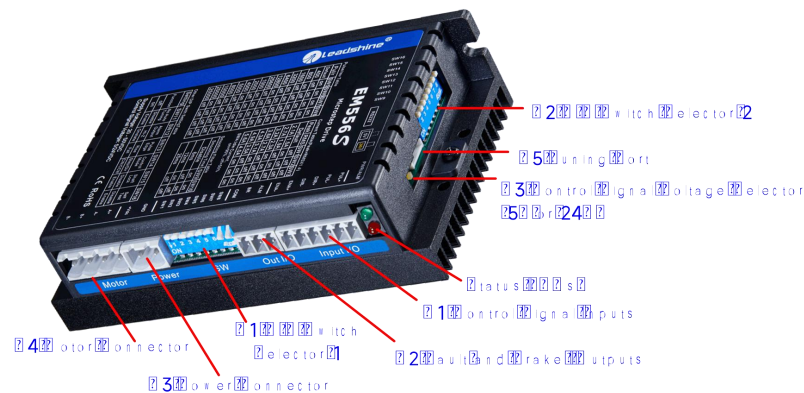

Figure 2 Connectors, DIP switches, and LED locations
PUL+ (CW+)	Pulse and Direction Connection: (1) Optically isolated, high level 4.5-5V or 24V, low voltage 0-0.5V (2) Maximum 200 KHz input frequency, 500KHz customized model is available (3) The width of PUL signal is at least 2.5μs, duty cycle is recommended 50% (4) Single pulse (step & direction) or double pulse (CW/CCW) is set by DIP Switch SW14 (5) DIR signal requires advance PUL signal minimum 5 μs in single pulse mode (6) The activated edge of PUL and DIR is set by DIP Switch SW13 (7) The factory setting of control signal voltage is 24V, must need to set S3 (figure 2) if it is 5V
The DM556 can accept differential or single-ended control signals (pulse, direction, and enable) in open-collector or PNP connection through the P1 connector (figure 2). It is recommend to add an EMI line filter between the power supply and the drive to increase noise immunity for the drive in interference environments.
The first 8-bit is located on the side (DIP switch selector 1 in Figure 2) and used to configure settings of micro step resolution, output current, and motor standstill current as shown below, the factory setting of SW1-SW8 is **OFF, OFF, OFF, OFF, OFF, OFF, ON, ON**.
The second 8-bit DIP switch is located on the top (DIP switch selector 2 in figure 2), and used to configure settings of control command filtering time, motor auto-configuration, fault output impedance, pulse active edge, control mode, lock shaft, and self-test as shown below, the factory setting of SW1-SW8 is **OFF, OFF, OFF, ON, ON, OFF, OFF, OFF**.
The Third 1-bit selector is located on the top (DIP switch selector 3 in figure 2), used to configure the voltage of control signals. For the safety of optically coupled, the factory setting is 24V, which no need to connect 2K resistors like the old drives, making it easier to use. When the voltage of the control signal is 5V, the S3 must be set to 5V, otherwise, the motor won't work.